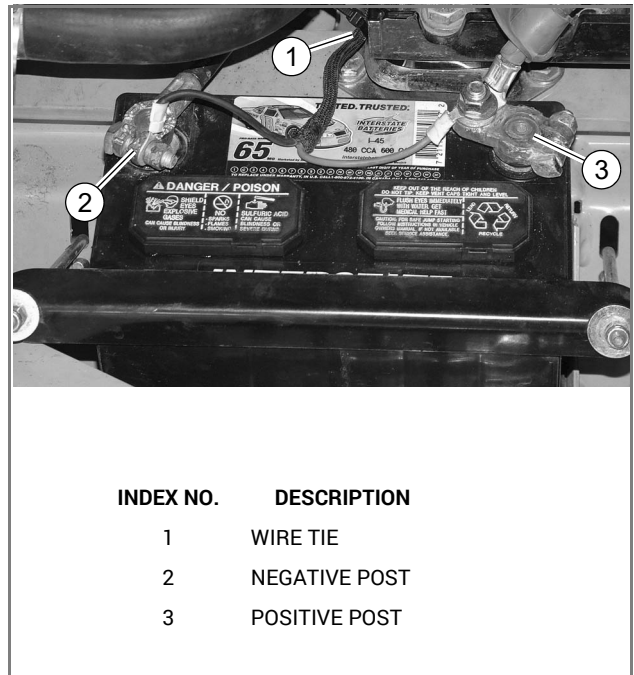

FIG. 21
- 40. Re-connect the negative battery cable and turn the ignition switch to the "ON" position. FIG. 21